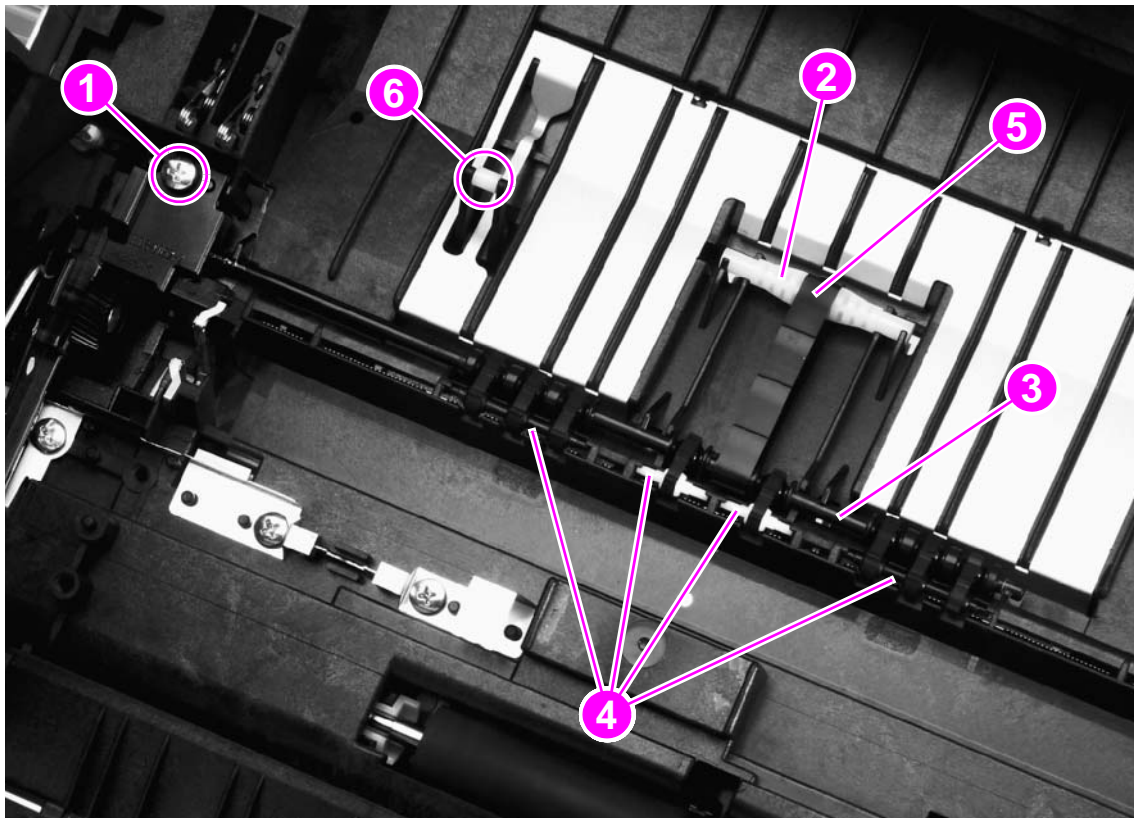

Figure 100. Removing the feed-drive shaft
- 2 Remove the fuser-wrap sensor roller (see figure 100 on page 156, callout 6).